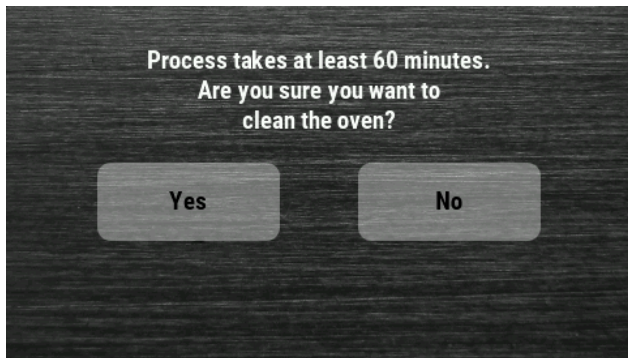

Figure 24.
1. Touch and hold the Clean button for 1 to 2 seconds. The screen asks if you are sure you want to clean the oven. See Figure 24.